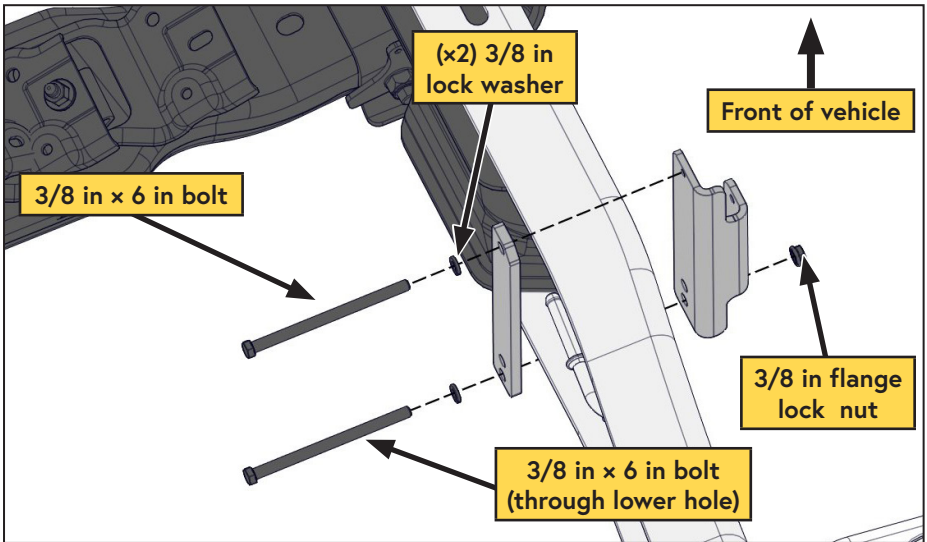

Figure 45 — Installing the AOST
- Using the (x2) 3/8 in × 6 in bolts, install the rear tank mount and backing strap where the frame begins to narrow, behind the transmission cross member. Leave the bolts finger tight to allow for minor adjustments (Figure 45).